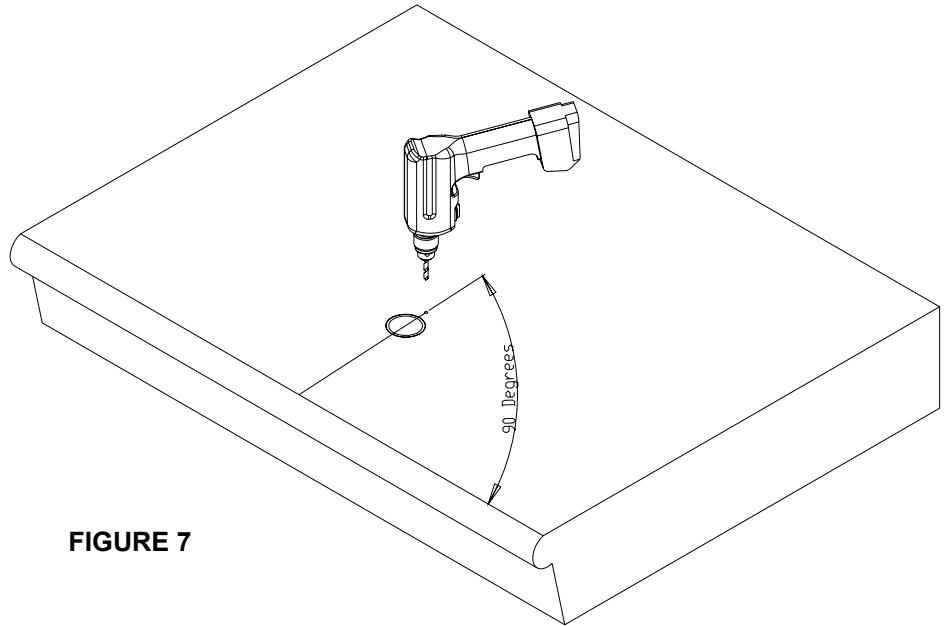

FIGURE 7
2. Remove the post and use a 3/16" Masonry bit in a rotary drill and drill about 2 inches straight down. **Figure 7**